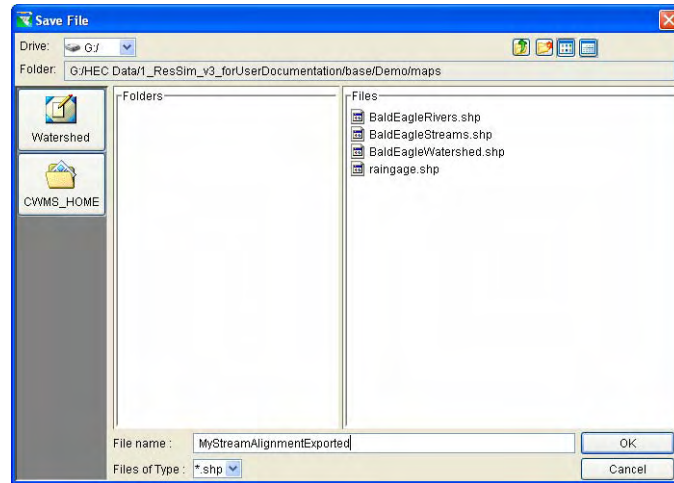

Figure 5.25 Save File Browser
3. A **Save File** browser (Figure 5.25) will open. Enter a name in the **File Name** box. Click **OK**, the **Save File** browser will close, and you will have an ArcView® shapefile of the displayed stream alignment.